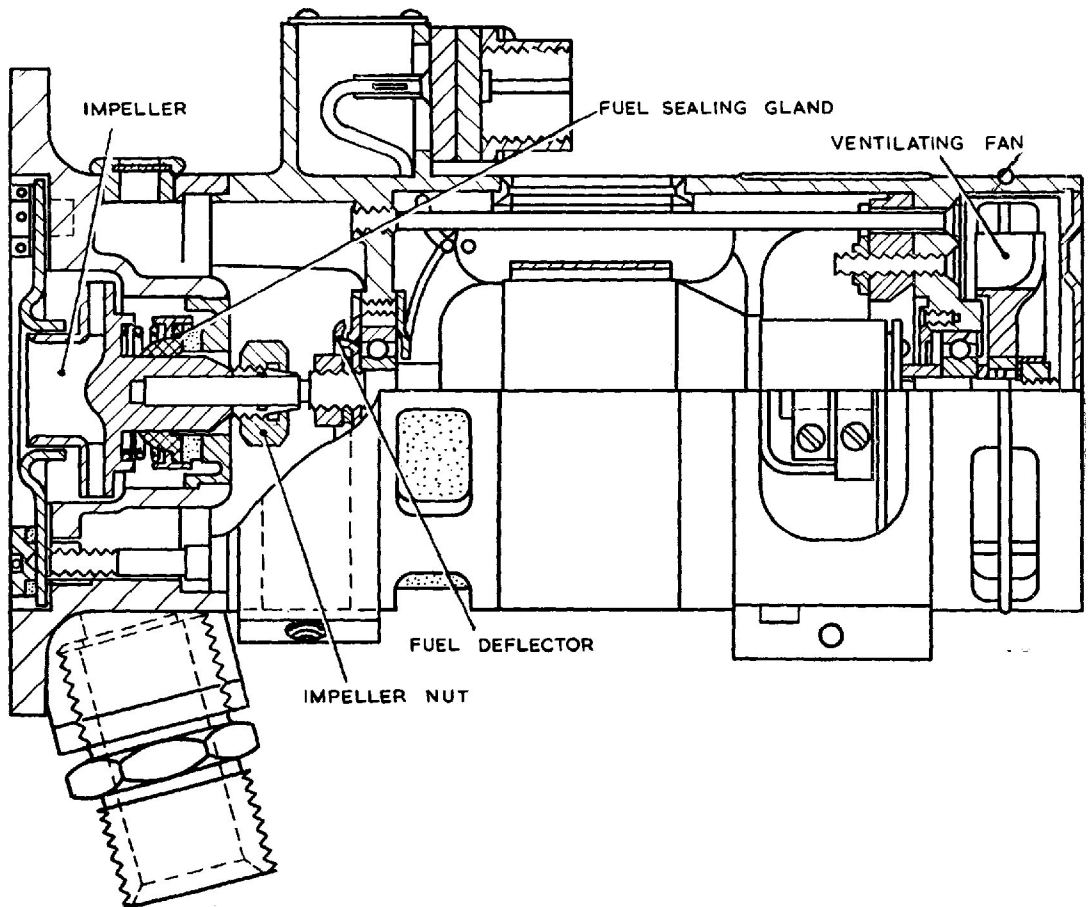

Fig. 2. Sectional view of pump
16. Alternative gland drain connections are provided (*fig. 2*), fitted with $\frac{1}{4}$ in. B.S.P./AGS couplings, jointed and wired in place. One of these connections is fitted with a blanking cap.
18. Before installation ascertain that the pump turns freely by hand, and remove the blanking cap from the $\frac{1}{4}$ in. drain outlet, which will be in the lower position when the unit is installed in the aircraft. It is important to remember that the blanking cap must be re-fitted to the alternative drain on the opposite side of the pump (*fig. 2*).